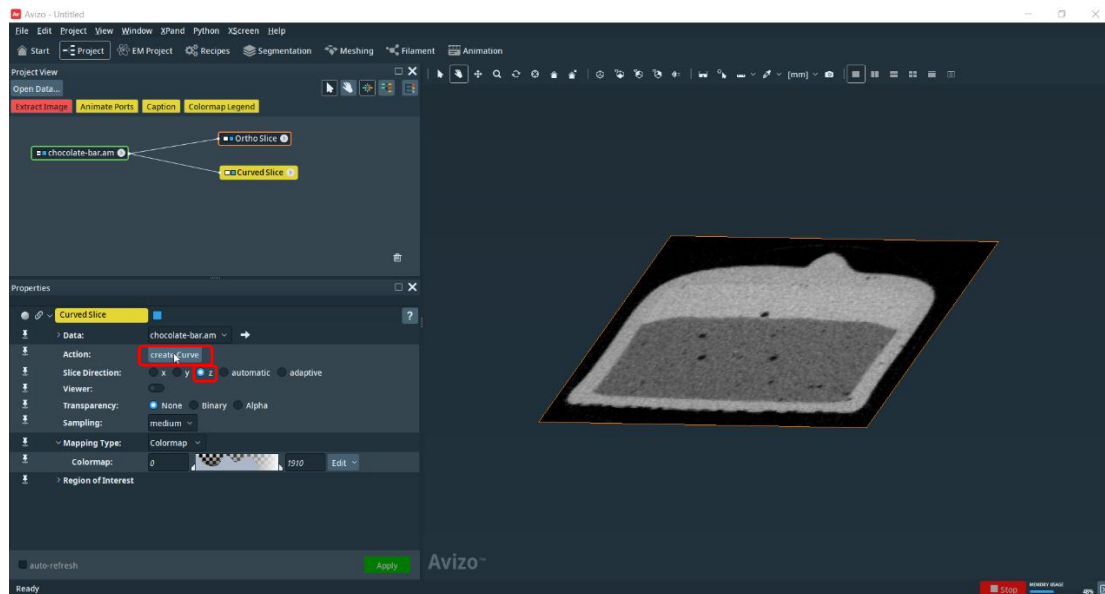

Figure 2
- b. Press “create Curve” button. See Figure 2